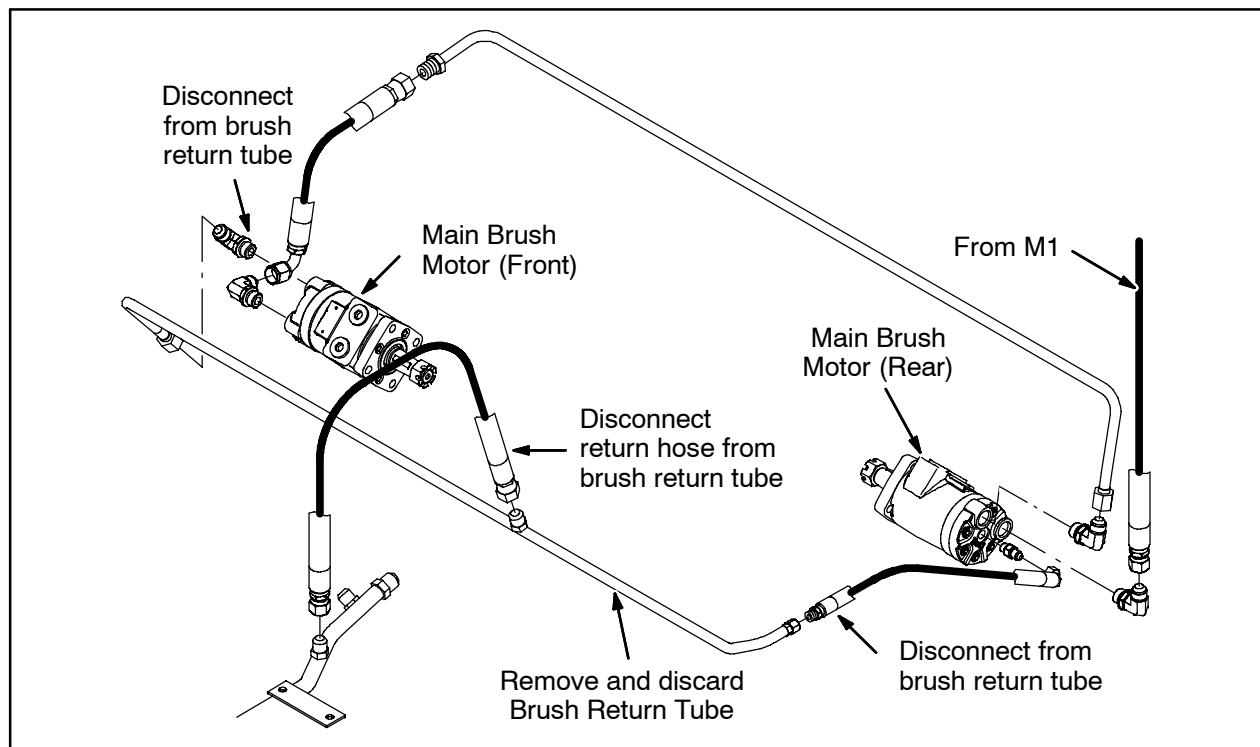
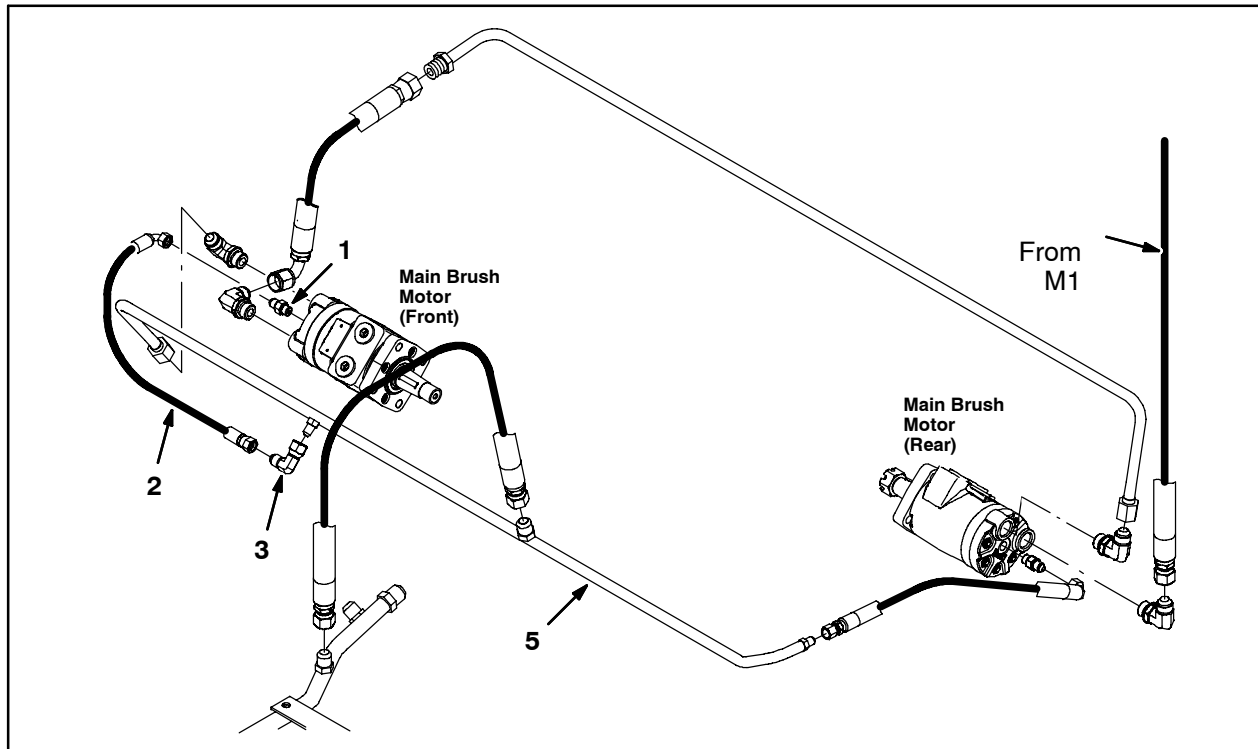

FIG. 2
FIG. 7
9. Remove the brush return tube from the scrub head. Discard the brush return tube. Refer to Fig. 2.
2. Install the straight fitting (1) into the center port of the front brush motor. Refer to Fig. 3 and Fig. 7.
3. Connect the 20" hydraulic hose (2) to the straight fitting (1). Refer to Fig. 3, Fig. 4, and Fig. 7.
4. Install the 90° fitting (3) onto the new brush return tube (5). Orient the 90° fitting so it is pointing out parallel with brush return tube. Refer to Fig. 5 and Fig. 7.
5. Position new the brush return tube (5) onto the scrub head where the old one had previously been located and connect the hose from the rear brush motor to the brush return tube. Refer to Fig. 2 and Fig. 7.
6. Connect the other end of the brush return tube (5) to the 90° fitting on the front brush motor. Refer to Fig. 2 and Fig. 7.
7. Connect the return hose to the brush return tube (5). Refer to Fig. 2 and Fig. 7.